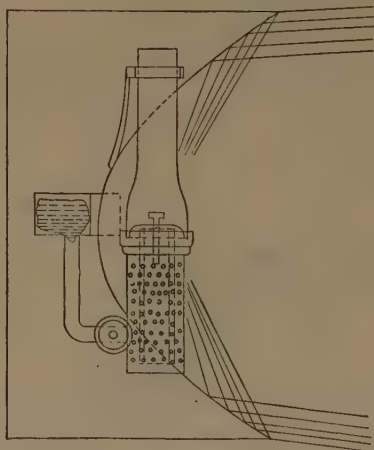

Fig. 391.
A. The rays will either diverge as in Fig. 391, or converge.
A. (1) To admit air around the flame, thus making the light whiter, (2) to keep the chimney cool.